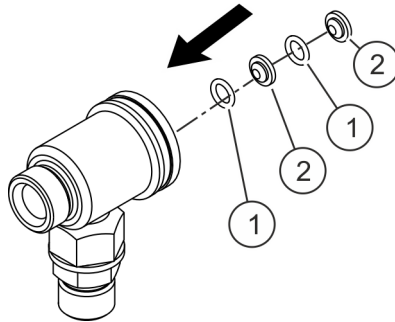

Fig. 22: Installing the needle pack
1. ➔ Reinstall new parts of the needle pack comprised of two seals (Fig. 22/1) and two cup collars (Fig. 22/2) into the head piece. Pay attention to the correct installation position.